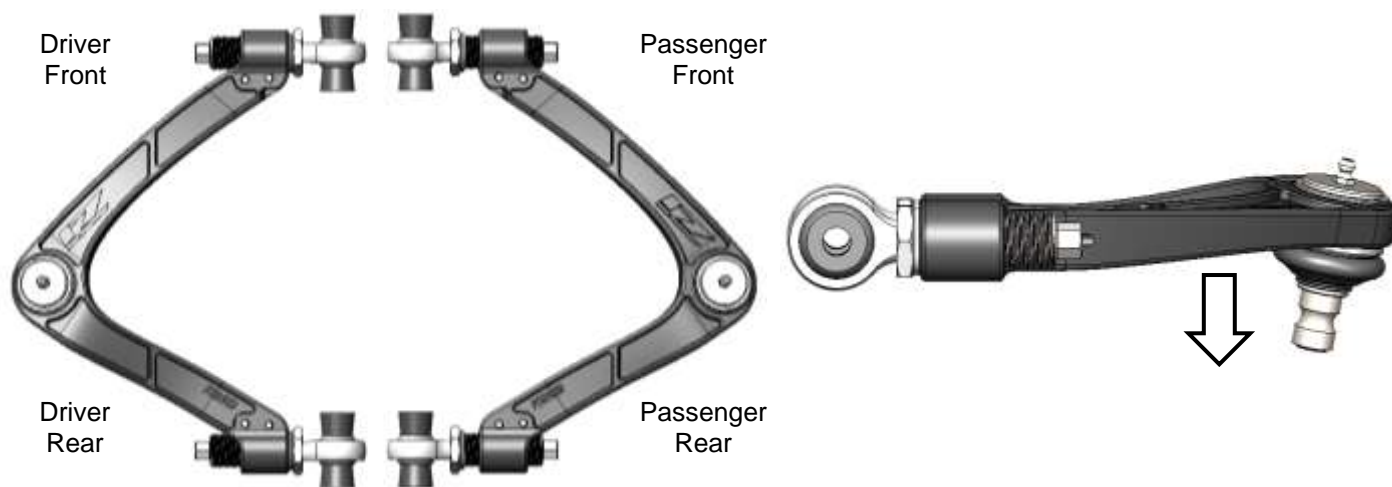

Figure 6
20. Position the Z1 FUCA into the chassis. For Race Ends, make sure to include the (2) two Conical Spacers on each side of the arms, with the smaller side of the Spacer on the Race End Heim Joints. *Figure 6.*